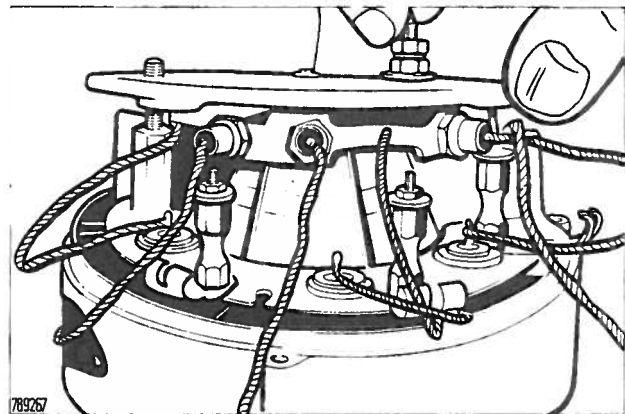

Fig. 64 Fitting positive diode heat sink
3. Fit the positive diodes heat sink securing it with the insulating and spring washers Fig. 64.